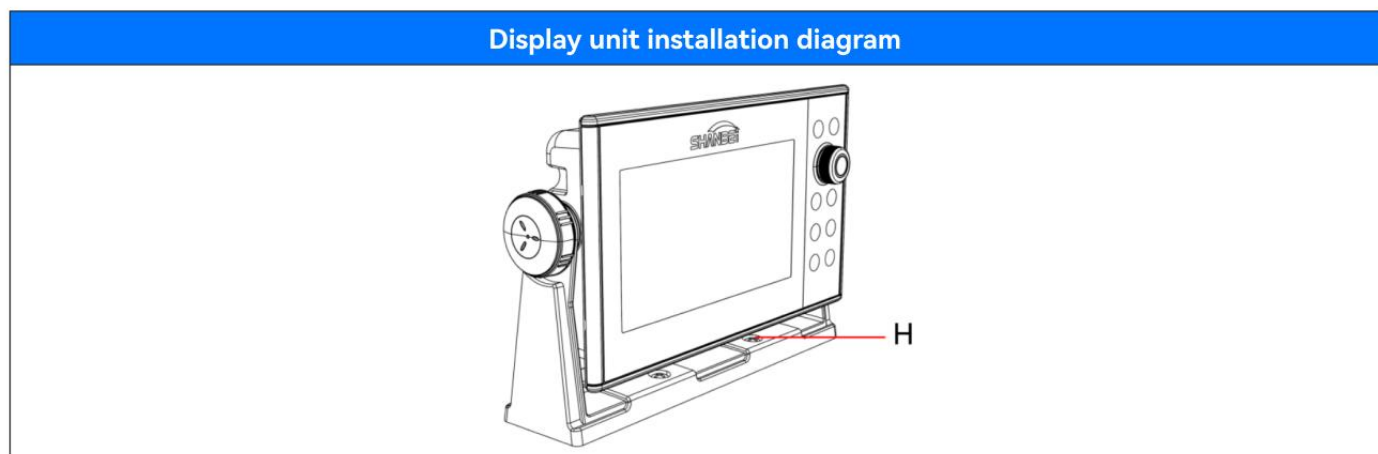

Figure 3.41
1. Install the display unit on the table as shown in Figure 3.41, and tighten the H screw to ensure secure.